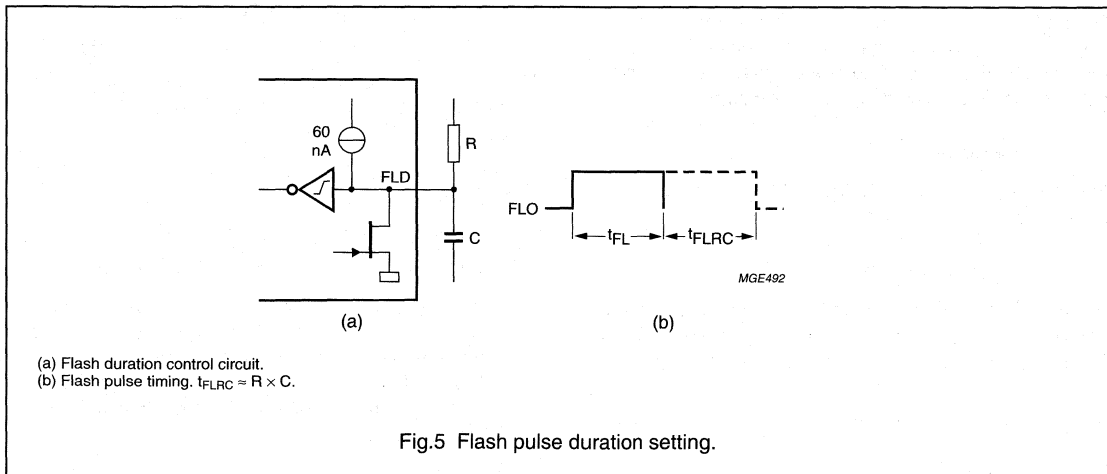
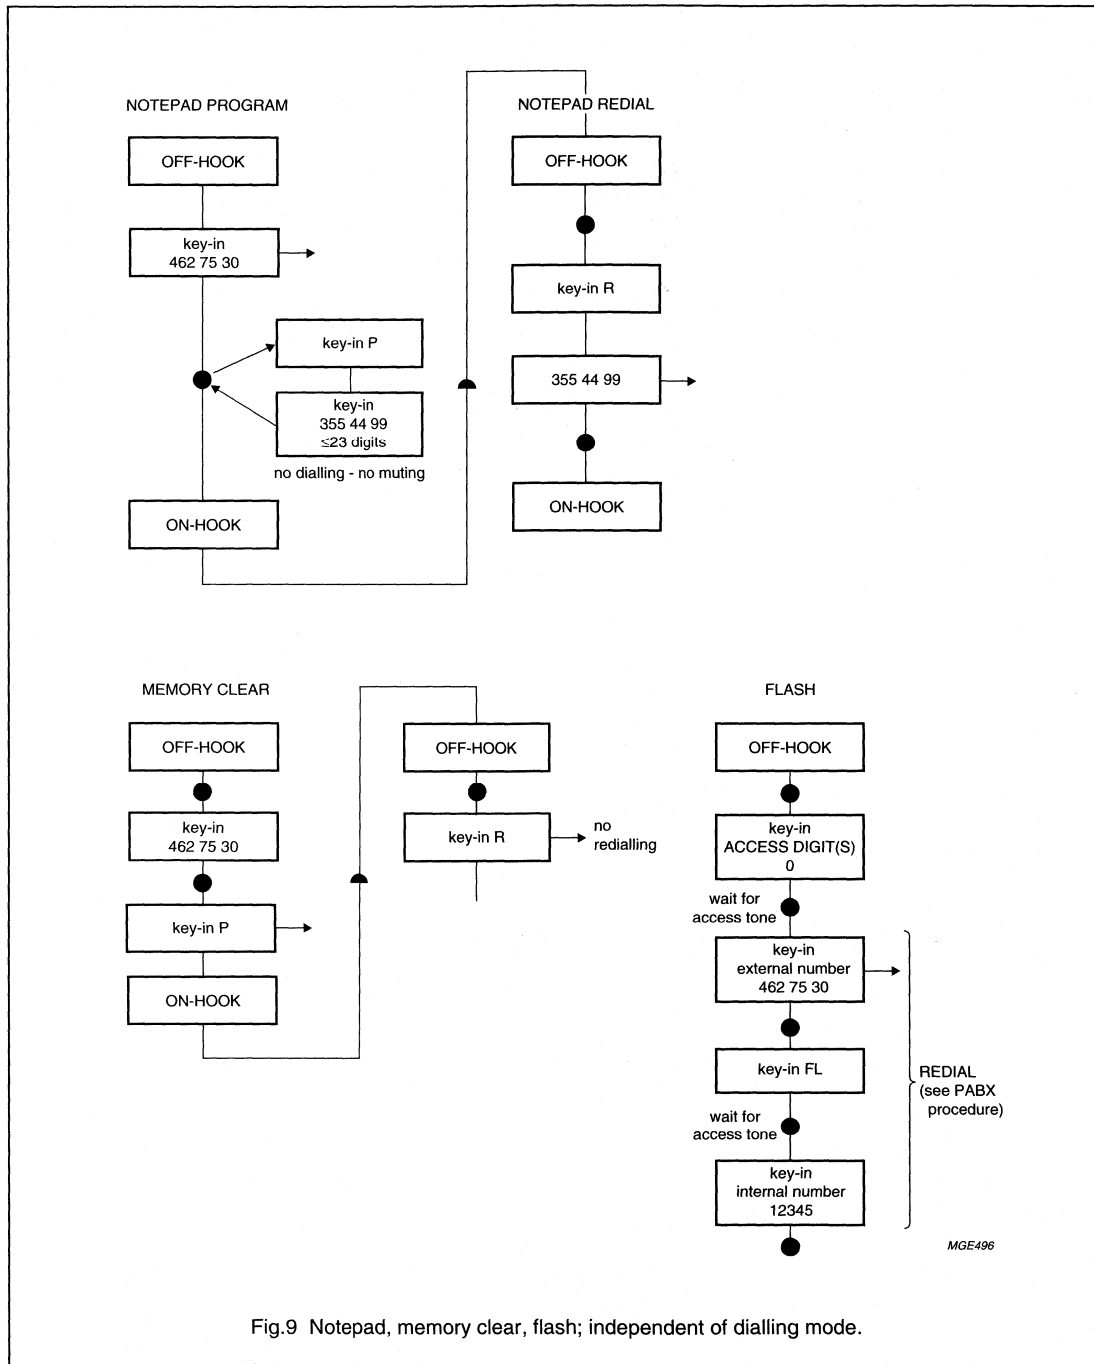

Fig.5 Flash pulse duration setting.
Fig.9 Notepad, memory clear, flash; independent of dialling mode.
The FL key has the same effect as placing the telephone 'on-hook' for a calibrated time. Pressing the FL key will produce a timed line-break of 100 ms (min.) at the DP/FLO output. During the conversation mode pressing FL also acts as a chip enable. The flash pulse duration (t_{FL}) is calibrated and can be prolonged with an external resistor and capacitor connected to the FLD input/output (see Fig.5). The flash pulse resets the Read Address Counter (RAC) to the address of the first entered digit of the last number dialled. Subsequent redial is possible (see Fig.9). The counter of the reset delay time is held for a period of t_{FL} .
The redial register can also be used as a notepad. In the conversation mode a number with up to 23 digits can be entered and stored for redialling. By activating the program key (P) the WAC and TWAC pointers are reset. This acts like a memory clear (redial is inhibited). Afterwards, by entering and storing any digits, redialling will be possible after flash or hook-on and hook-off (see Fig.9).